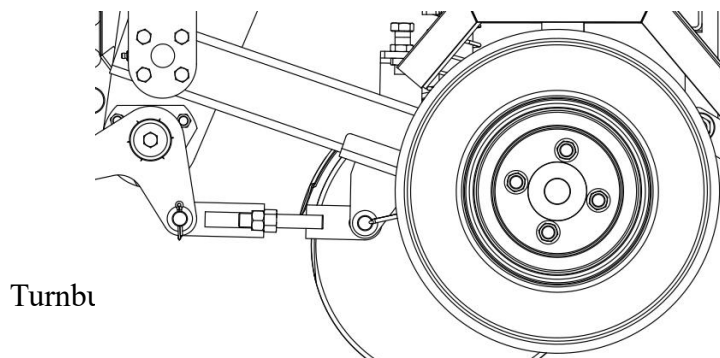

Fig. 6
- Adjust float by first loosening the rear bolt on the turnbuckle, Fig. 6. Be sure to loosen both sides.